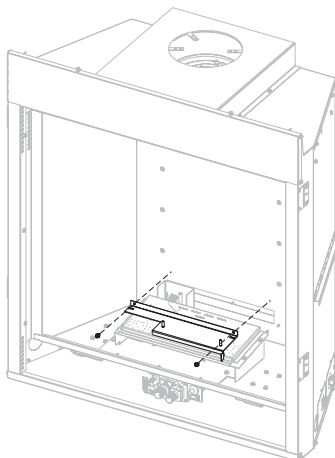

Figure 9
6. Remove log support by removing the two screws securing the metal plate to log support. Retain log support and screws for reassembly. See Figure 9.
17. Reinstall the log support and secure it with metal plate and two screws removed in step 6. **See Figure 9.**